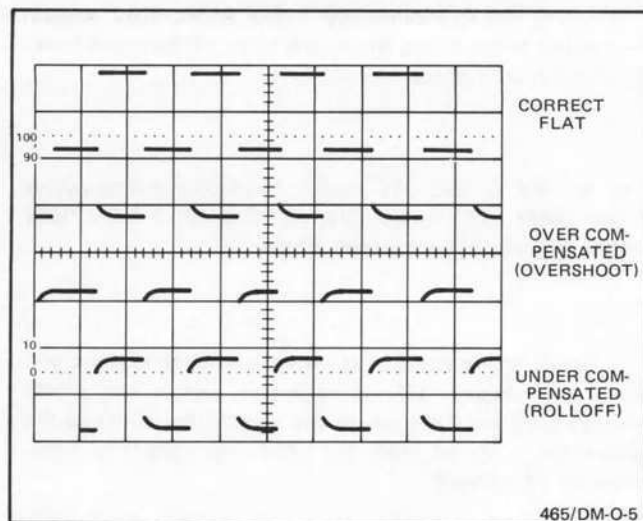

Figure 11. Probe compensation.
7. Check the waveform presentation for overshoot and rolloff (see Figure 11). If necessary, adjust the probe compensation for flat tops on the waveforms. Refer to the instructions supplied with the probe for details of compensation adjustment.